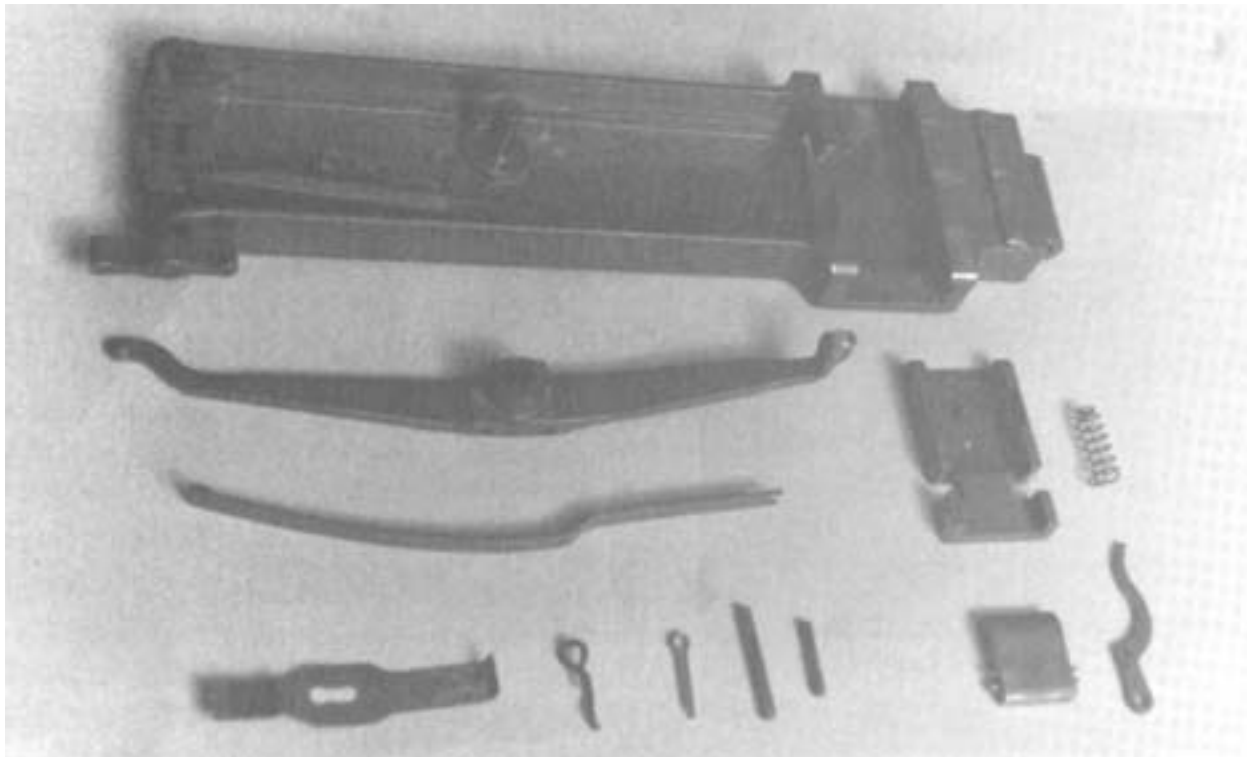

Figure 4-40. Belt Feed Slide.
- Remove the belt feed slide from either side. See figure 4-40.